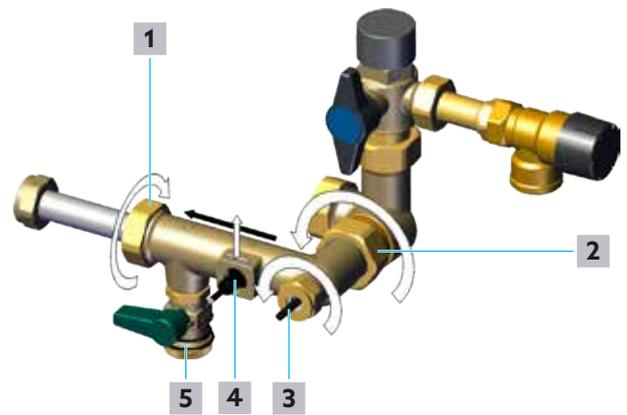

Fig. 5: Cleaning the measuring turbine
- 8 Loosen the clamp of the volume flow sensor (position **4** in Fig. 5 on page 17) and put it aside.
- 9 Loosen the union nut of the temperature sensor for potable water (cold)/circulation S3 (position **3** in Fig. 5 on page 17).
- 10 Carefully pull the volume flow sensor for potable water circuit (position **4** in Fig. 5 on page 17) and the temperature sensor for potable water (cold)/circulation S3 (position **3** in Fig. 5 on page 17) out of the fitting.
- 12 Loosen the union nut cold potable water supply (position **2** in Fig. 5 on page 17) with a 38 mm open-end spanner.
- 13 Loosen the union nut heat exchanger side (position **1** in Fig. 5 on page 17) with a 37 mm open-end spanner.
- 3 Loosen the clamp of the volume flow sensor (position 4 in Fig. 5 on page 17) and put it aside.